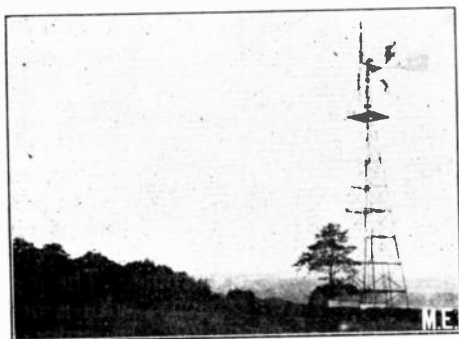

Fig. 1.
**T**HE wind turbine electric plant is becoming quite common in England and is of much interest. The accompanying illustration, Fig. 1, shows a wind turbine installation at Buckenhill Bronyard in Herefordshire at the country house of R. Phitts, Esq. This plant produces current for 100 lights and is utilized for electric cooking, heating and driving machinery on the estate.
It may be of interest to note some of the details of the country house wind turbine electric plant at Buckenhill seen in illustration, Fig. 1. The power for electric drive is supplied by a wind turbine and is mounted upon a steel tower 75 feet high, about 435 yards away from the house, on ground which stands perhaps 90 feet above the level of the ground around the house. The generator is placed in a small house at the foot of the tower, and the battery and switchboard are mounted in one of the out buildings of the house. The current is conveyed from the generator to the battery by means of bare copper cables, carried on porcelain insulators mounted on poles in connection with which lightning arrest-